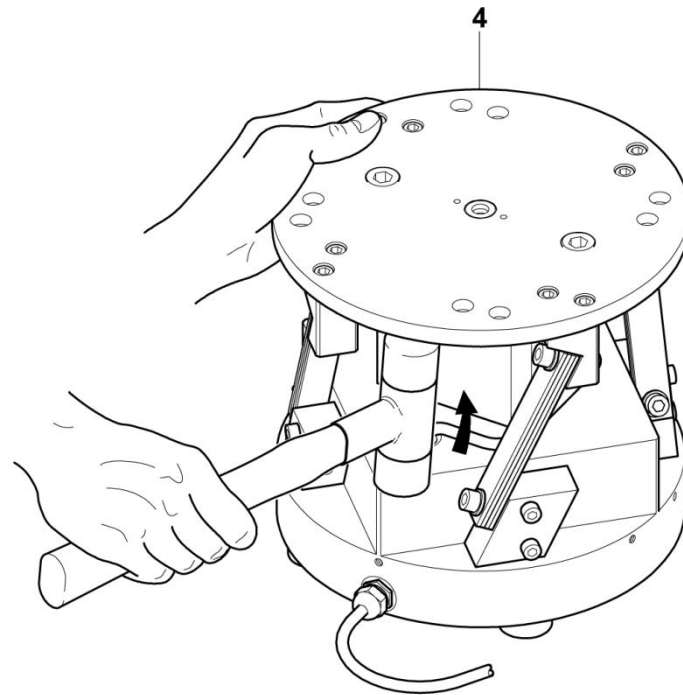
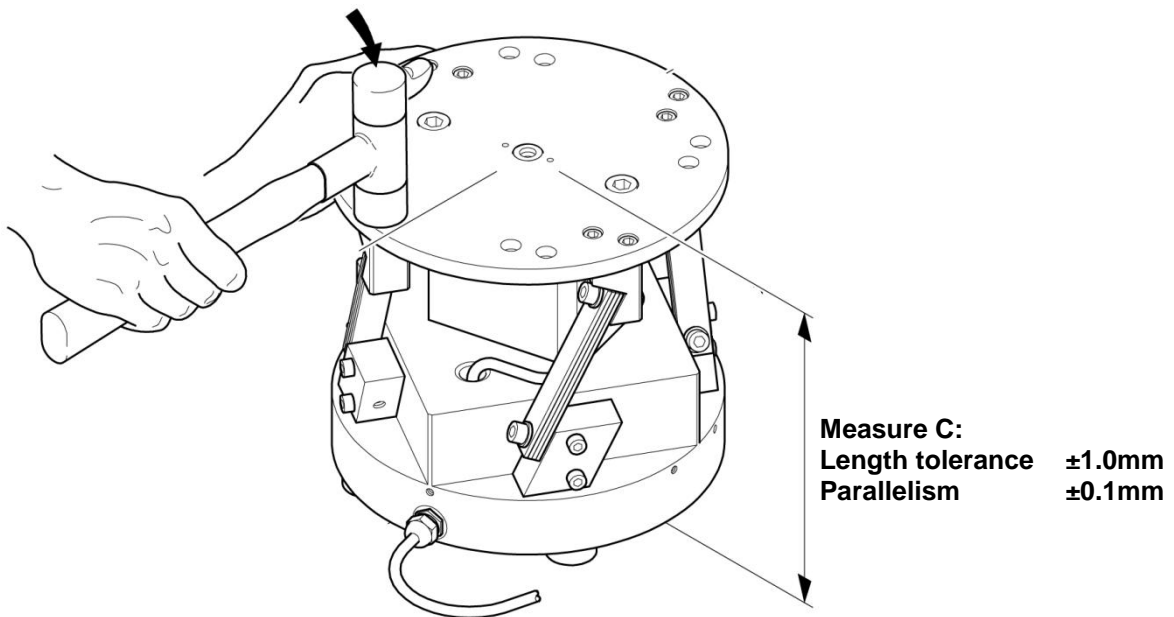

Figure 13
Figure 14
1. Remove the casing (2)
2. Slightly loosen the spring package screws (3).
3. Hammer the oscillating plate (4) first into the upper position (see Figure 13) using a plastic hammer, and then hammer downwards until a height tolerance of $\pm 1.0\text{mm}$ and a parallelism tolerance of 0.1 mm with respect to the support base have been achieved. (see Figure 14)
4. Retighten the spring package screws (3)
5. Replace the bowl (1) and carry out any necessary settings (for this purpose, see chapter 5.1)